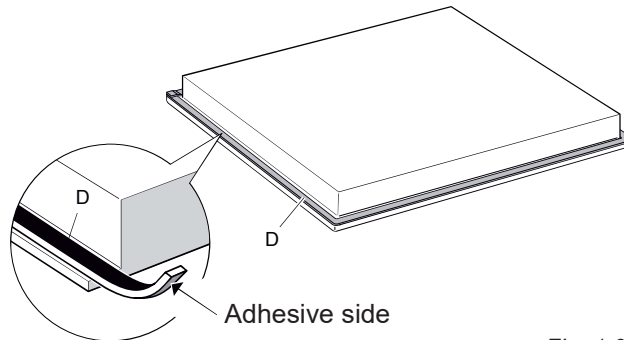

Fig. 1.6
- Spread the seal "D" around the edge of the hob (fig. 1.6).